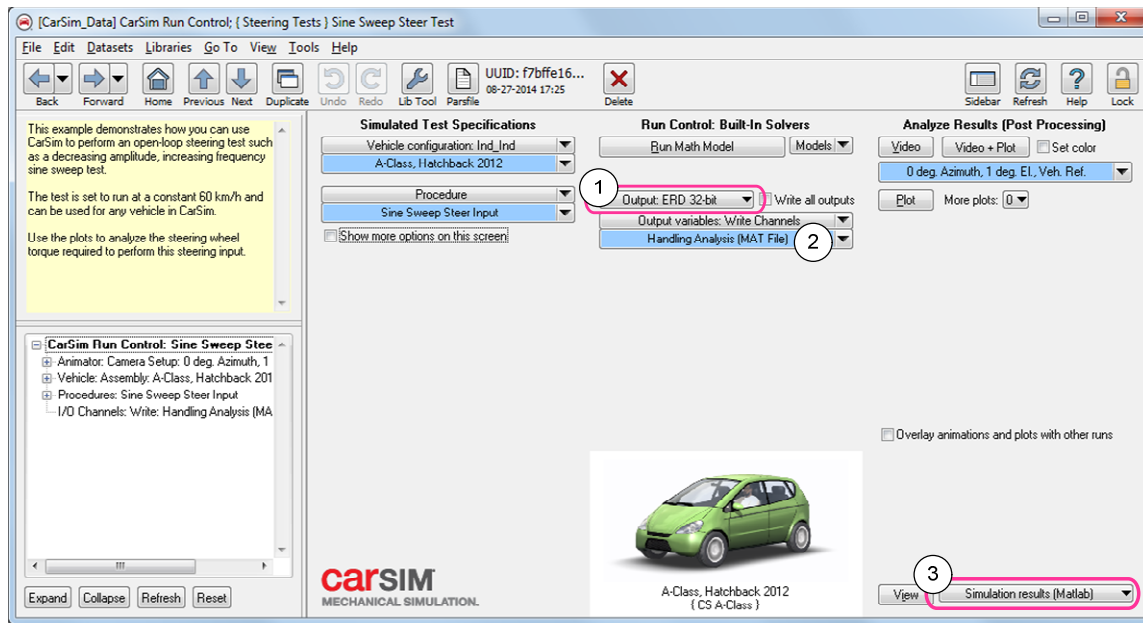
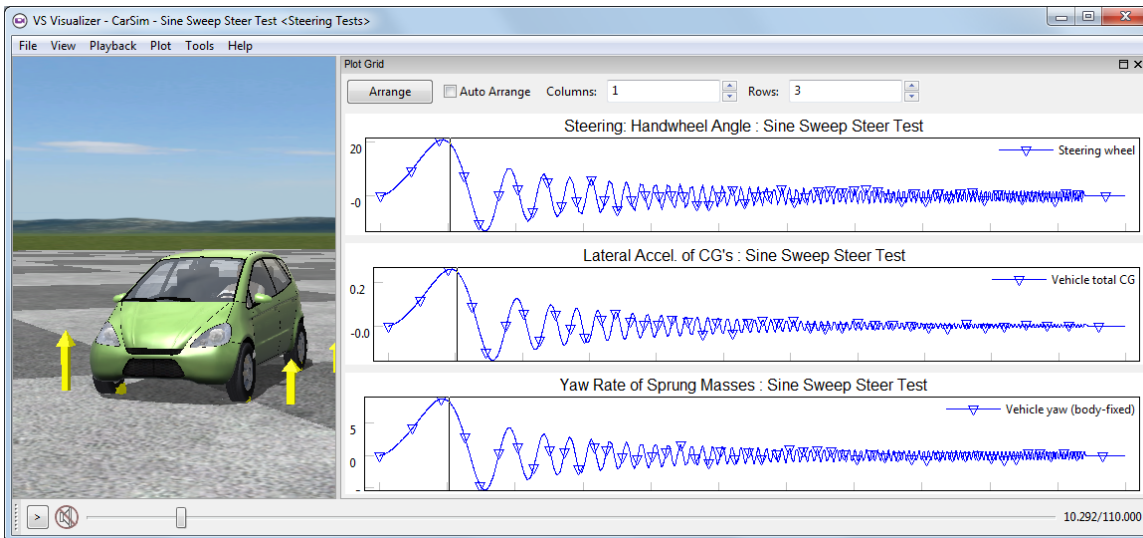
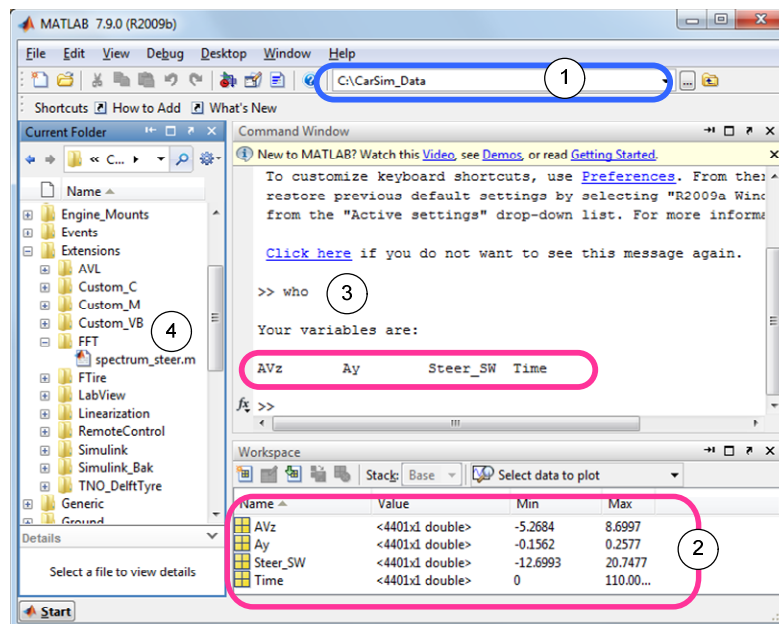

Figure 1. Run Control screen for Sine Sweep Steer Test.
Figure 2. Vehicle response with a sinusoidal-sweep steer input (from low to high frequency).
Figure 3. MATLAB command window with VS output variables in workspace.
Frequency response plots are widely used for characterizing electro-mechanical system behavior, including vehicle systems. Here, a CarSim example is tested to see the frequency response to steering input from the driver. The simulation run is named **Sine Sweep Steer Test** in the category **Steering Tests** of the **CarSim Run Control** screen (Figure 1).
A small A-Class vehicle is set up to run on a flat surface with a constant speed of 60 km/h. A sinusoidal steering angle input is defined that provides significant contents over a broad range of frequency. Steering starts with low frequency and increases to high frequency over a time of 110 s (Figure 2). Outputs of interest are yaw rate and lateral acceleration, also shown in the figure.
In order to feed the time history data shown in Figure 2 into MATLAB, the simulation results are written in ERD format and converted to MAT format with the ERD converter tool. In Figure 1,
After the simulation, choose the drop-down menu item **Simulation results (Matlab)** ③ (Figure 1) and click the adjacent **View** button. This launches MATLAB with the output variables from CarSim available in the MATLAB workspace (Figure 3).
A bode plot program for linearized model (`bdp_steer.m`) exists for this particular example in the `Linearization` folder under `Extensions`. Move the cursor over the `Linearization` folder in the file browser window (④ in Figure 3) and double-click it to move the current directory to this local folder.